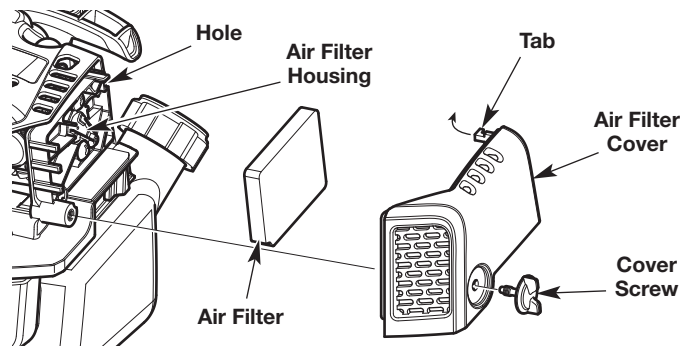

Fig. 33
1. Unscrew the cover screw completely. Swing the air filter cover to the right. Remove the air filter cover from the air filter housing (Fig. 33).
2. Remove the air filter from the air filter housing (Fig. 33).
6. Reinstall the air filter in the air filter housing (Fig. 33).
7. Insert the tab on the air filter cover into the hole on the air filter housing. Swing the air filter cover to the left. Push the air filter cover back onto the air filter housing. Insert the cover screw into the air filter cover. Tighten the cover screw to secure the air filter cover (Fig. 33).